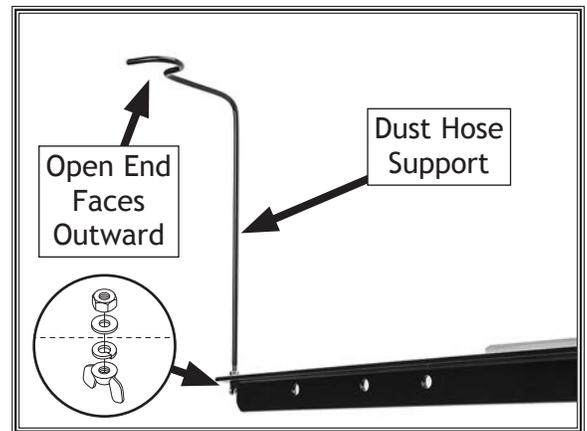

Figure 26. Dust hose support installed.
17. Attach dust hose support arm to rear rail with M6-1 hex nut, 6mm flat washer, 6mm lock washer, and M6-1 wing nut. Orient arm so open end of hook faces outward (see **Figure 26**).